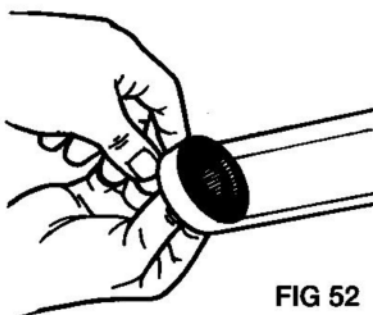

FIG 52
1. Pull worn parts out and replace with new (Fig 52) on main handle mount.